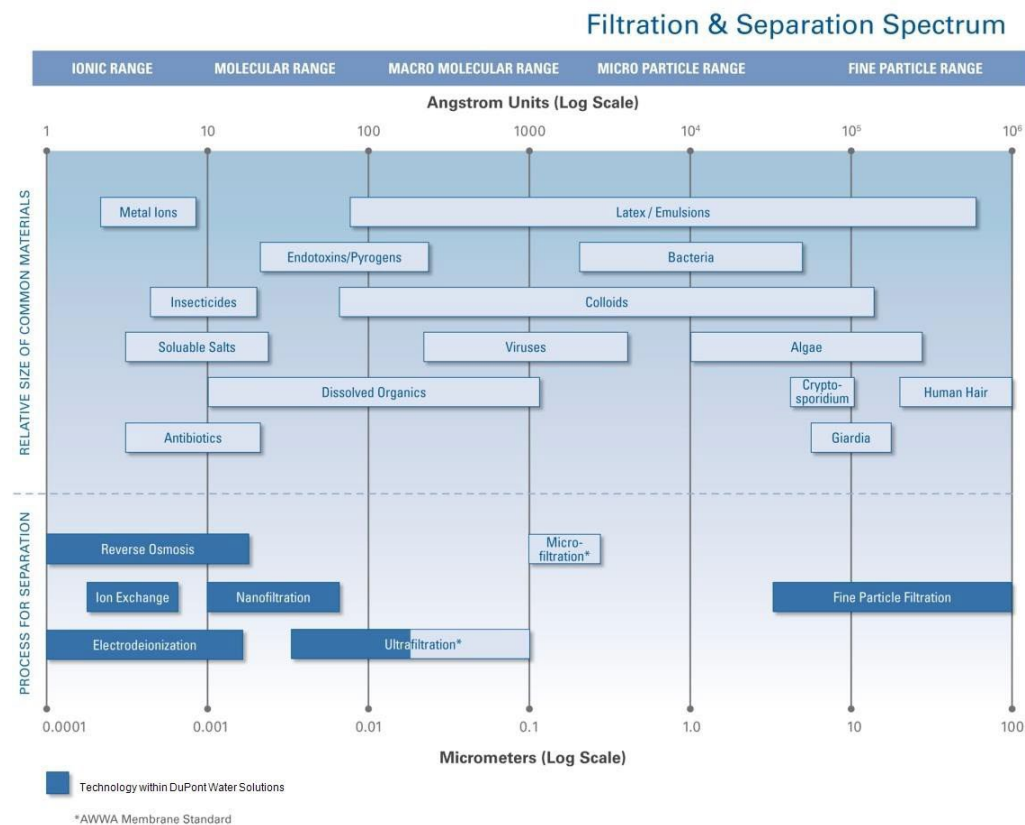

Figure 1: Separation Filtration Spectrum
A separation spectrum diagram is shown on Figure 1. It depicts the most common technologies applied for the removal of diverse contaminants or substances present in a feed stream of water supplies. While Electrodeionization (EDI), Ion Exchange (IER), Reverse Osmosis (RO) and Nanofiltration (NF) target the removal of solutes from the feed stream, Ultrafiltration (UF), Fine Particle Filtration (FPF) and Microfiltration (MF) separate fine particles, suspended solids, colloidal matter, microorganisms (e.g., cryptosporidium or giardia cysts) and low molecular weight species.